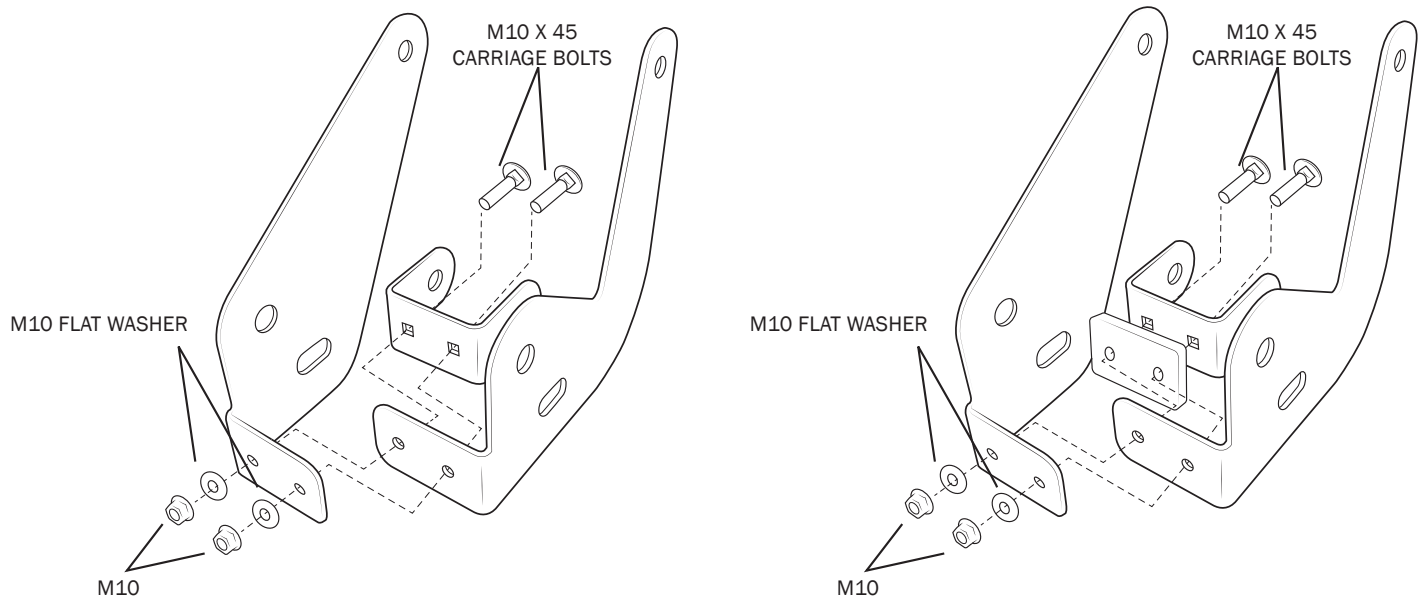

Figure 9 Left: 37" Tires Right: 40" tires
- a. Preassemble the AEV radius arm brackets for installation (Fig. 9). Note the additional spacer for 40" tire applications.